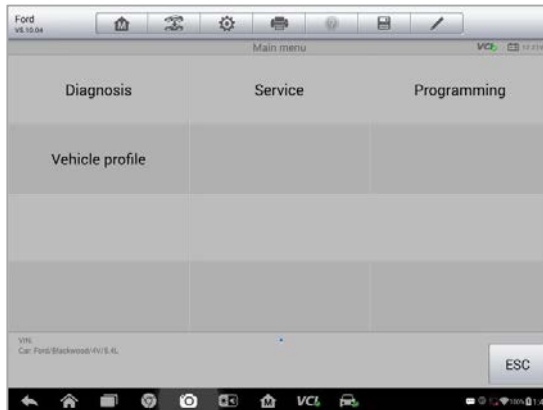

Figure 4-2 Sample Vehicle Diagnostics Screen
5. Tap **Done**. The vehicle will be identified in a few seconds, and once the matching is successful, the system will guide you to the Vehicle Diagnostics screen directly. (*Figure 4-2*)
The Vehicle Diagnostics screen (Figure 4-2) has 2 main options: